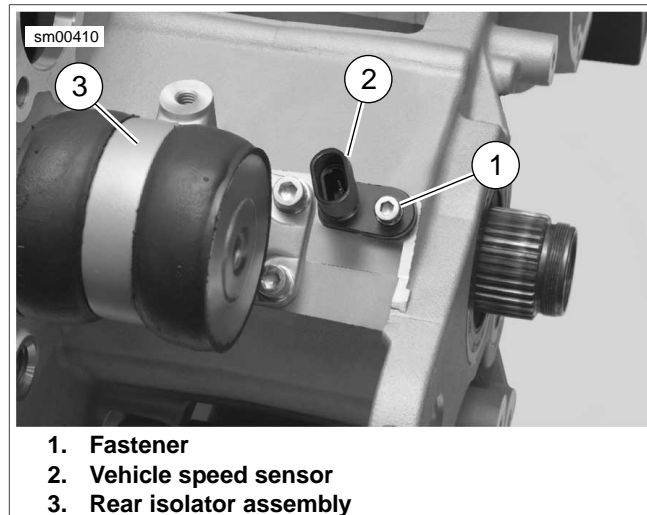

Figure 6-82. Speedometer Sensor
3. See Figure 6-82. Remove fastener (1) to detach vehicle speed sensor (2) from crankcase.
1. See Figure 6-82. Lubricate o-ring with engine oil and install fastener (1) to attach vehicle speed sensor (2) to crankcase and tighten to 90-110 **in-lbs** (10.0-12.4 Nm).